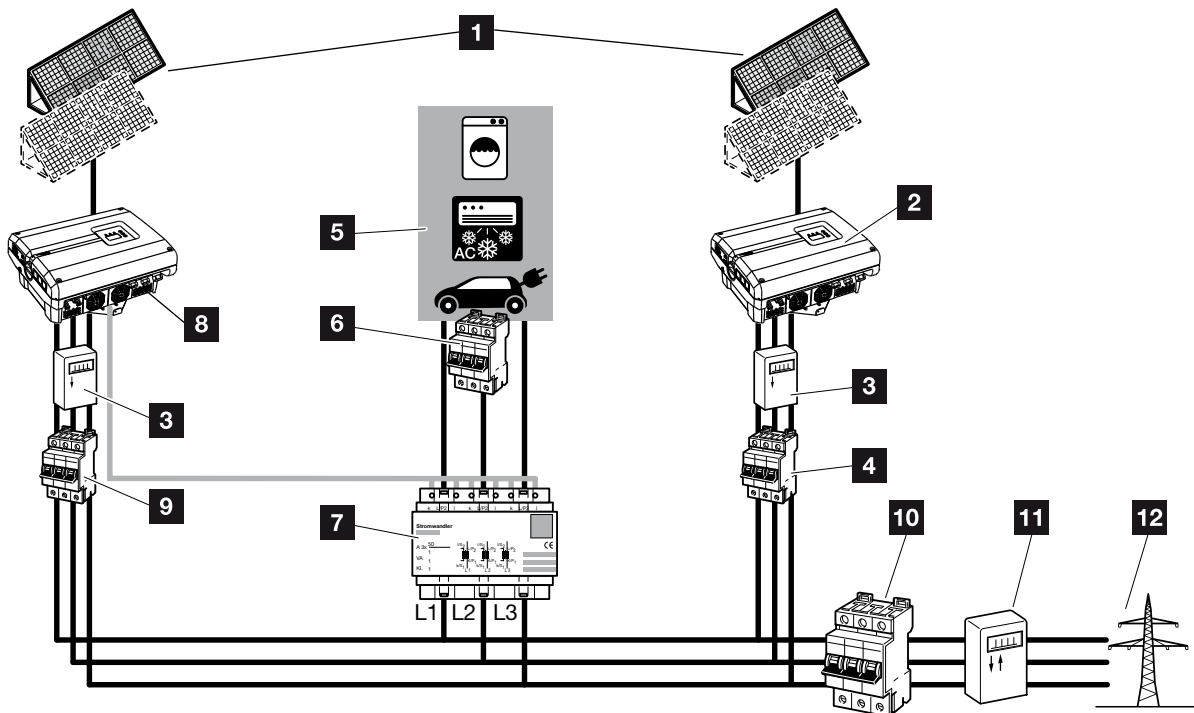
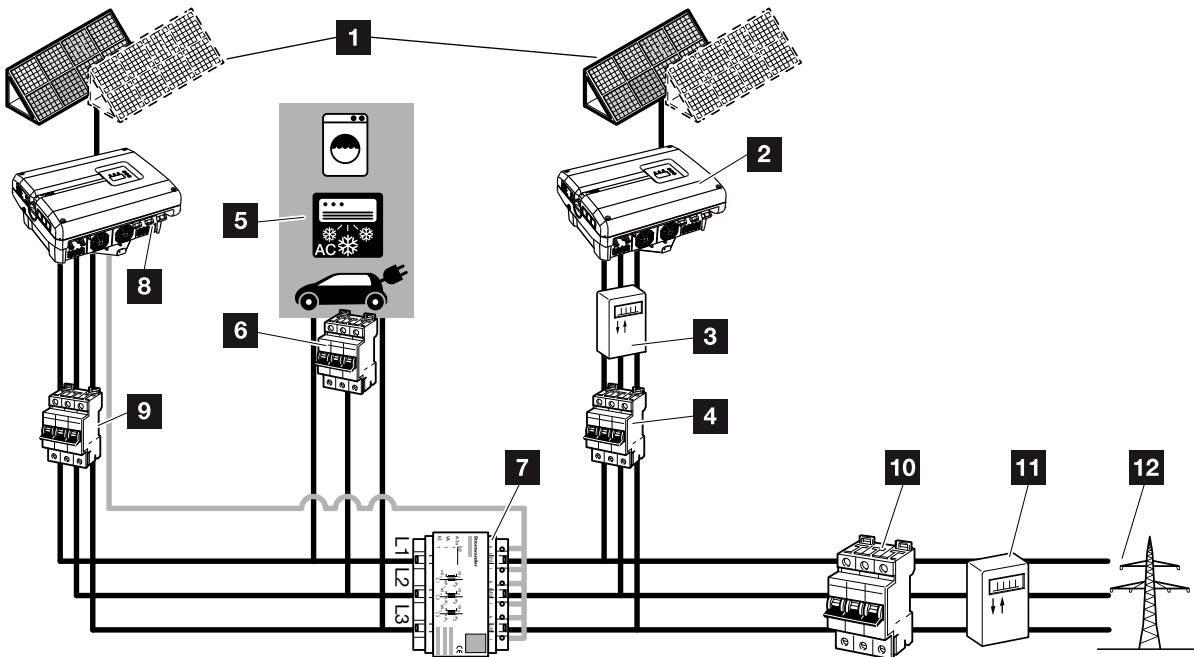

Fig. 77: Connection of several inverters - current sensor position mode 1 - home consumption data (possible as of PIKO 4.2)
Fig. 78: Connection of several inverters - current sensor position mode 2 - grid consumption data (possible as of PIKO 4.2)
2. Integrate inverters into the system as shown in the diagrams  **Fig. 77, Fig. 78** and connect them properly